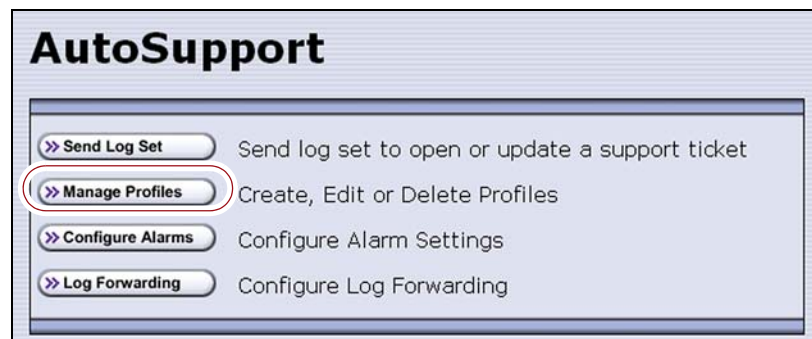

Figure 191 Click **Manage Profiles** to create or edit an AutoSupport profile.
If one of the profiles is configured as an AutoSend recipient, the **Configure Alarms** button is active (see Figure 191 on page 331).
2. From the toolbar menu, select **Maintenance**  **AutoSupport**. The AutoSupport screen displays (see Figure 191 on page 331).